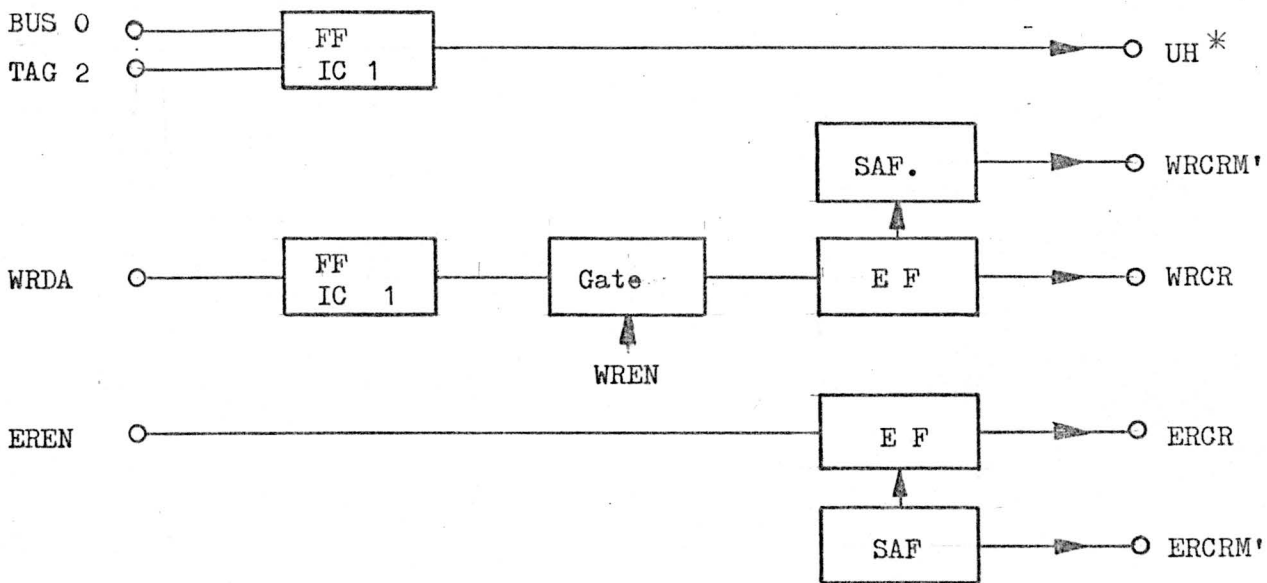

Fig. 13
The write - erase - amplifier/safety - card (Fig. 13) includes the circuits for generating and gating the write and erase currents. The flip-flop (FF) for head selections is build-in at the same card.